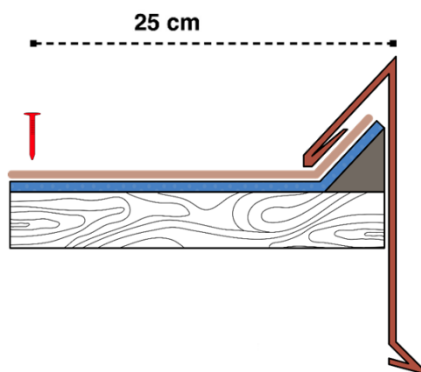

Fig. 5 - Lateral flashing detail with triangular wooden batten
- Alternatively, fix a triangular-section batten along the lateral edge of the roof, before the membranes/underlay. Position the membrane/underlay above the triangular batten and lay the shingle on top, cutting it at the vertex of the batten. Once the pitch is completed, apply a perimeter metal flashing over the shingles – Fig. 5.